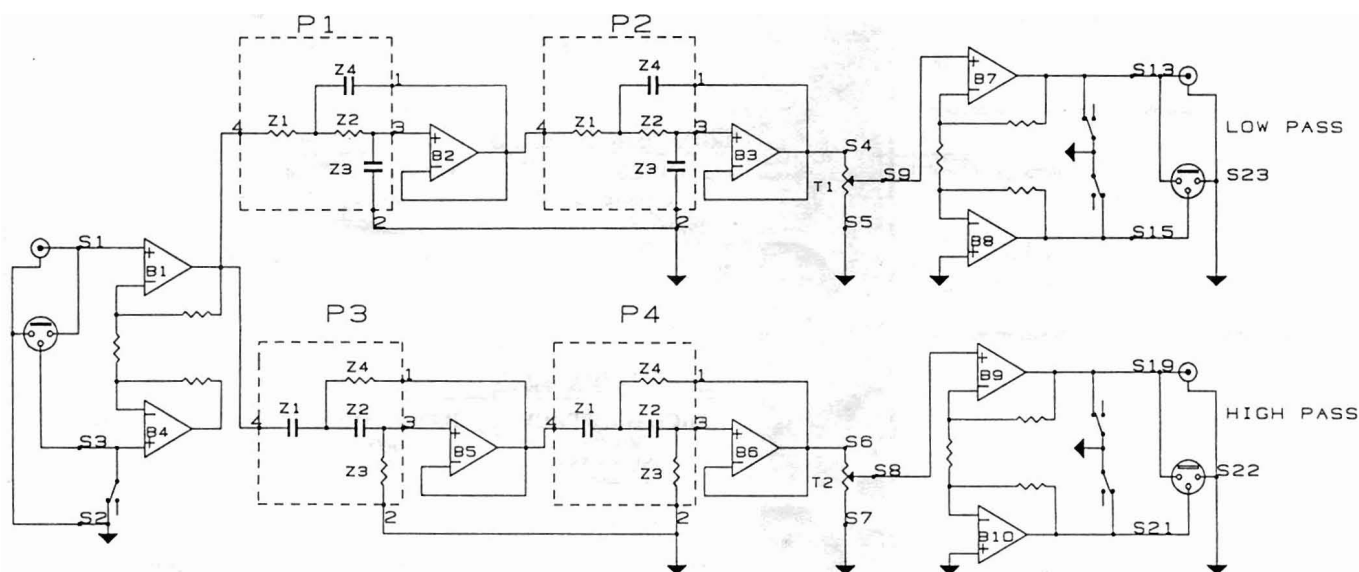

FIGURE 1: Two-way crossover block schematic. Power supply is ±24V. Switch on mute.
Figure 1 is the block schematic for a two-
We choose a value for $C_0 = 5,600\text{pF}$ and according to (2) $R_0 = 14,210\Omega$. So, we will use P1 (Fig. 1) and $Z_2 = R_0 = 14,210\Omega$ (13k + 1k21), $Z_3 = C_0 = 5,600\text{pF}$.
We choose a value for $C_0 = 5,600\text{pF}$ and according to (2) $R_0 = 14,210\Omega$. So we will use P3 (Fig. 1) and $Z_2 = C_0 = 5,600\text{pF}$, $Z_3 = R_0 = 14,210\Omega$ (13k+1k21).
Table A gives $m_1 = 0.7071$, $q_1 = 1.4142$. Figure B2 gives $R_1 = R_0/m_1$, $R_2 = R_0/q_1$. We choose $C_0 = 5,600\text{pF}$, according to equation (2) $R_0 = 14,210\Omega$, $R_1 = 2,0096\Omega$, $R_2 = 10,048\Omega$. We will use P3 (Fig. 1) and $Z_1 = Z_2 = C_0 = 5,600\text{pF}$, $Z_3 = R_1 = 20\text{k}$, $Z_4 = R_2 = 10\text{k}$.
Table A gives $m_1 = 0.5$, $m_2 = 1$, $q_1 = 2$. Figure B3 gives $R_1 = R_0/m_1$, $R_3 = R_0/m_2$, $R_2 = R_0/q_1$. We choose $C_0 = 6,800\text{pF}$ according to equation (2) $R_0 = 11,702\Omega$, $R_1 = 23,405\Omega$, $R_3 = R_0 = 11,702\Omega$, $R_2 = 5,851\Omega$. P3 and P4 will be needed (Fig. 1). P3: $Z_1 = Z_2 = C_0 = 6,800\text{pF}$, $Z_3 = R_1 = 23,405\Omega$ (22k1+1k3), $Z_4 = R_2 = 5,851\Omega$ (5k62+221). P4: $Z_2 = C_0 = 5,600\text{pF}$, $Z_3 = R_3 = 11,702\Omega$ (11k+681).
$= 1.0823, q_2 = 2.6131$. Figure B4 gives $R_1 = R_0/m_1, R_3 = R_0/m_2, R_2 = R_0/q_1, R_4 = R_0/q_2$. We choose $C_0 = 6,800\text{pF}$ according to equation (2) $R_0 = 11,702\Omega, R_1 = 12,668\Omega, R_3 = 30,587\Omega, R_2 = 10,812\Omega, R_4 = 4,478\Omega$. P3 and P4 will be needed (Fig. 1). P3: $Z_1 = Z_2 = C_0 = 6,800\text{pF}, Z_3 = R_1 = 12,668\Omega (12k1+562), Z_4 = R_2 = 10,812\Omega (10k+825)$.